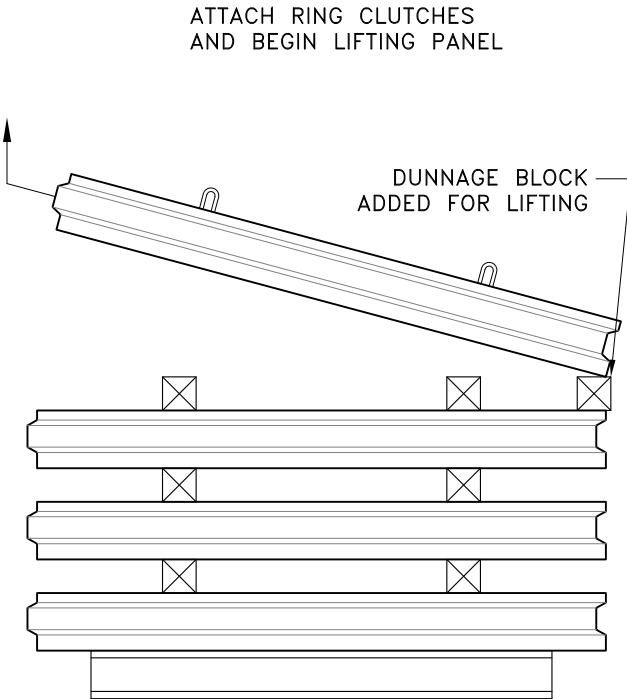

FIGURE 2
4. WHEN LIFTING PANELS FROM THE STACK, MAKE SURE THAT AN ADDITIONAL PIECE OF DUNNAGE IS BELOW THE BOTTOM EDGE OF THE PANEL TO PREVENT DAMAGE WHEN ROTATING PANELS FROM HORIZONTAL TO VERTICAL (SHOWN IN FIGURE 2).